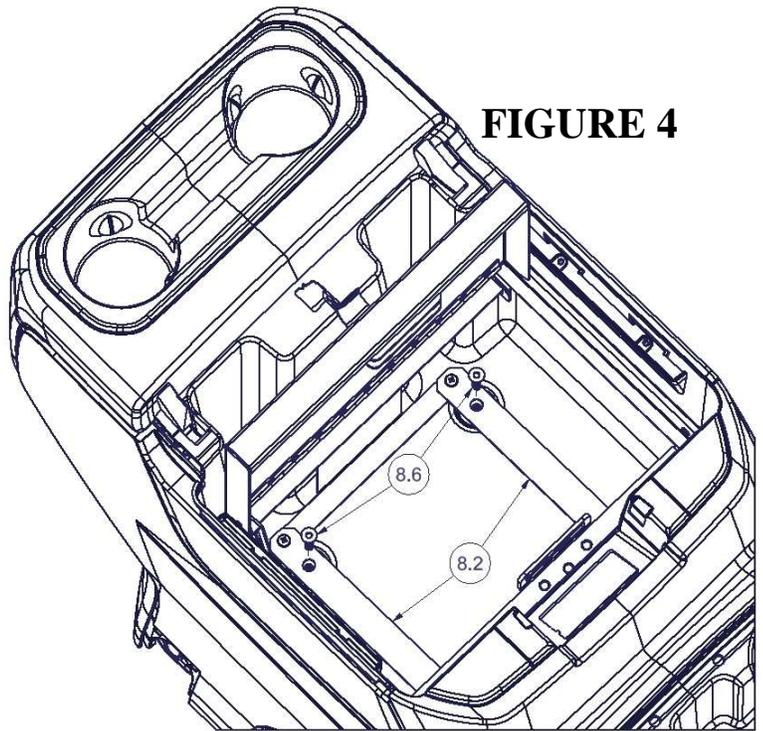

FIGURE 4
9. Insert the #8.6 Screws through the holes in the #8.2 Bottom Plates and into the base of the console. **See Figure 4.**